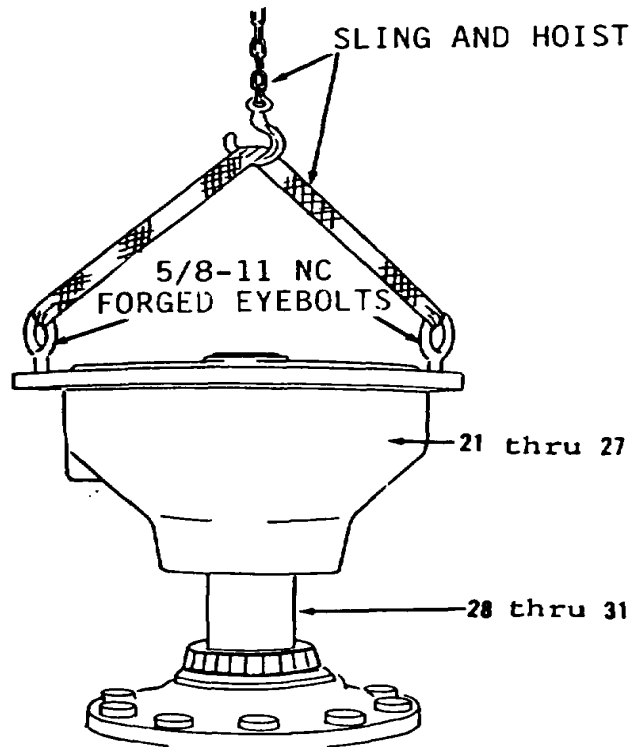
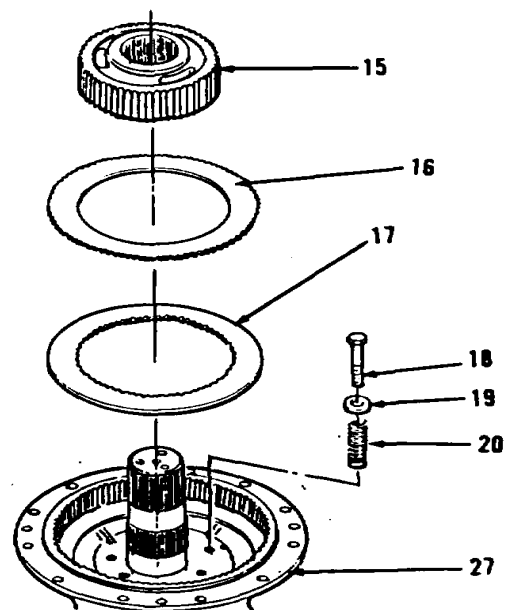

Figure 14-153.
Figure 14-152.
13. Install two 5/8-11NC forged eyebolts in items 27 thru 21 as an assembly (Figure 14-153).
15. Install items 27 thru 21 as an assembly on items 31 thru 28.
18. Install six springs (20), washers (19) and bolts (18) in housing (27, Figure 14-152).
19. Install hub (15) on spindle (31).
20. Apply a thin coat of engine oil SAE 30 to nine disc assemblies (17) and ten discs (16).
21. Install last one of ten discs (16) and last one of nine disc assemblies (17) in housing (27).
22. Install remaining nine discs (16) and eight disc assemblies (17) in the same order as in step 21.